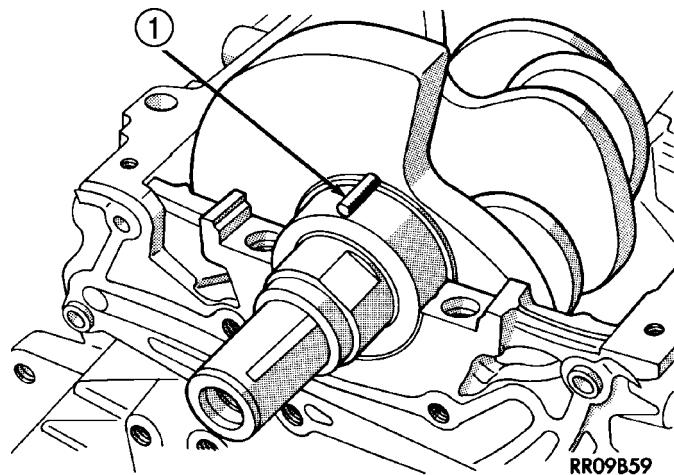

Fig. 3 Plastigage Placed in Lower Shell—Typical
(1) Remove oil film from surface to be checked. Plastigage is soluble in oil.
(2) Place a piece of Plastigage across the entire width of the bearing shell in the cap approximately 6.35 mm (1/4 in.) off center and away from the oil holes (Fig. 3). (In addition, suspected areas can be checked by placing the Plastigage in the suspected area). Torque the bearing cap/bed plate bolts of the bearing being checked to the proper specifications.